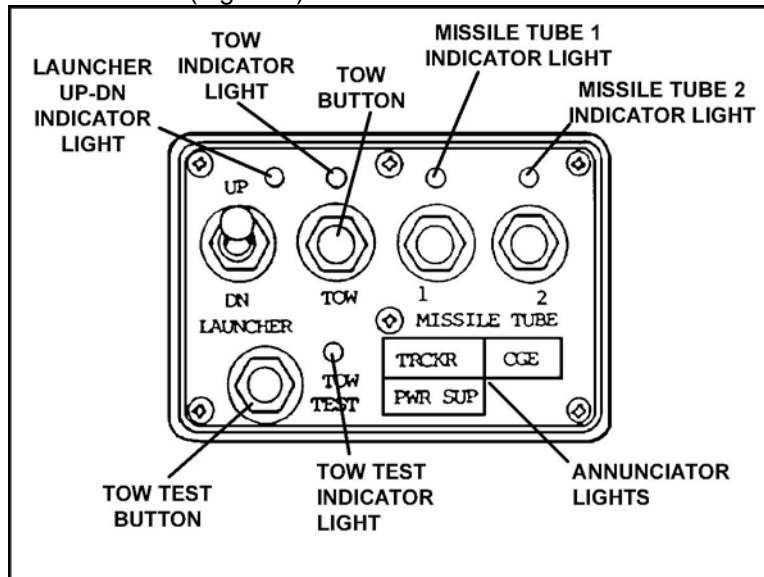

Figure 3. M2 TOW control box.
d. Raise the TOW launcher (Figure 3).